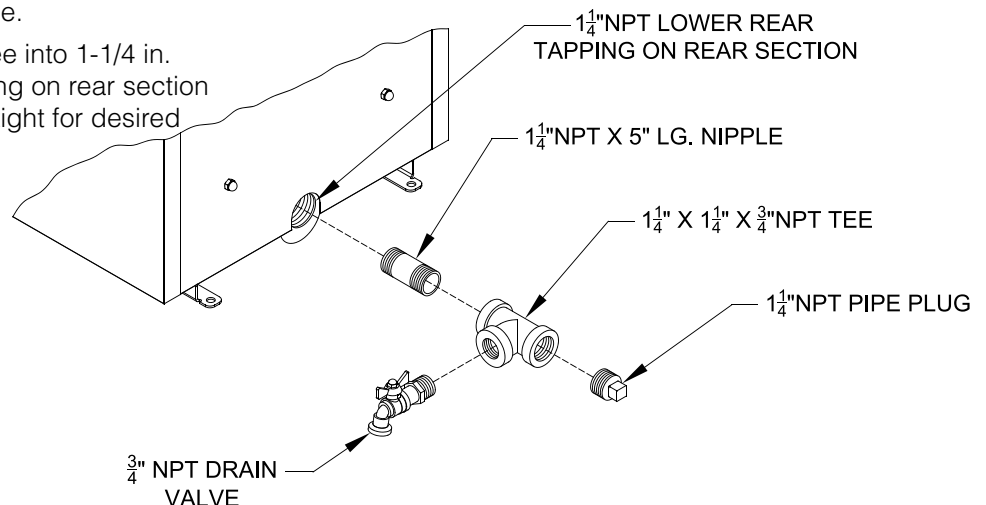

Figure 3-8: Piping Arrangement for Drain Valve and Indirect Water Heating Return
4. Install drain valve, see Figure 3-8.